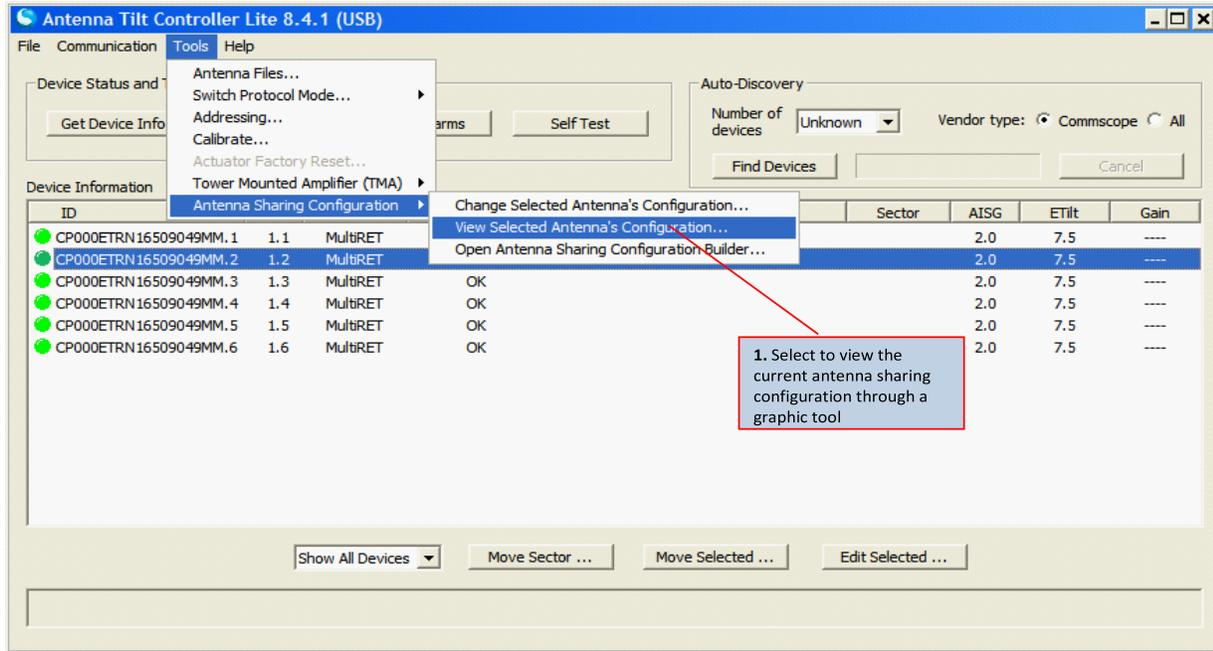

Figure 15-4. Menu Selection for View Current Antenna Sharing Configuration
1. Select the device from the found devices list. Then select the menu options “Tools” → “Antenna Sharing Configuration” → “View Selected Antenna’s Configuration...” as shown in the Figure 15-4.